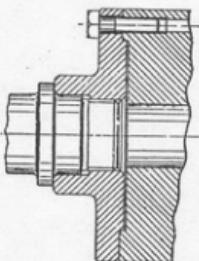

Fig. 42
- (1) Before screwing backplate on to spindle nose, ensure the cleanliness of spindle nose, backplate register, faces and thread.
- (2) Screw backplate firmly on spindle nose.
- (3) Machine register diameter to light tap fit in chuck body.
**Note.** With three-jaw gear scroll chucks, contact is made with the outer face of the chuck body and clearance with the inner face, see Fig. 42.